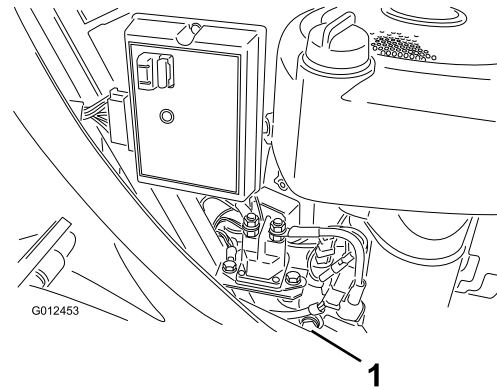

Figure 24
9. Remove the drain plug to allow the oil to drain (Figure 24).